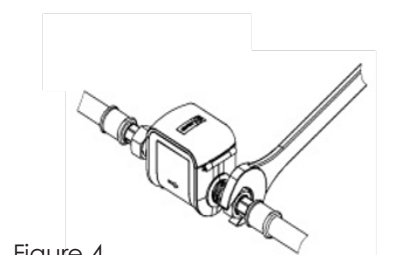

Figure 4
4. Place the meter in position and carefully tighten the coupling nuts by hand. Make sure each coupling nut is smoothly screwed onto the meter threads. Use a wrench to tighten the coupling nuts to a minimum torque setting of 10 lb-ft up to a maximum of 35 lb-ft. (Figure 4)